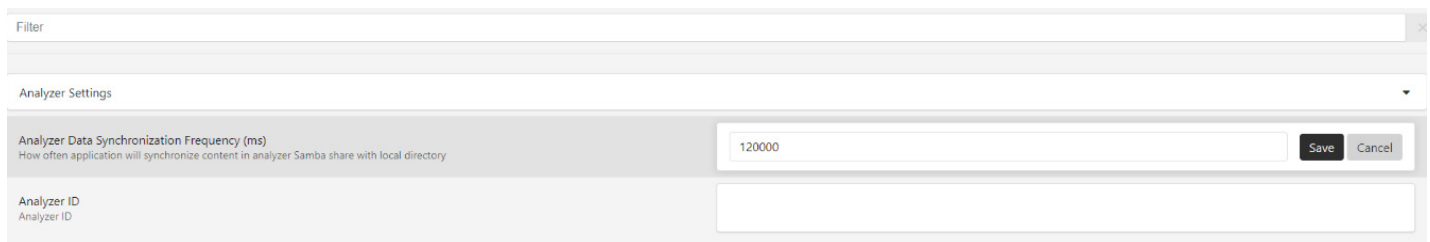

Figure 68 General Settings Screen with Category Expanded
- To edit a setting's value, expand a category, click the setting, type the value in the field, then click **Save** (see Figure 68).